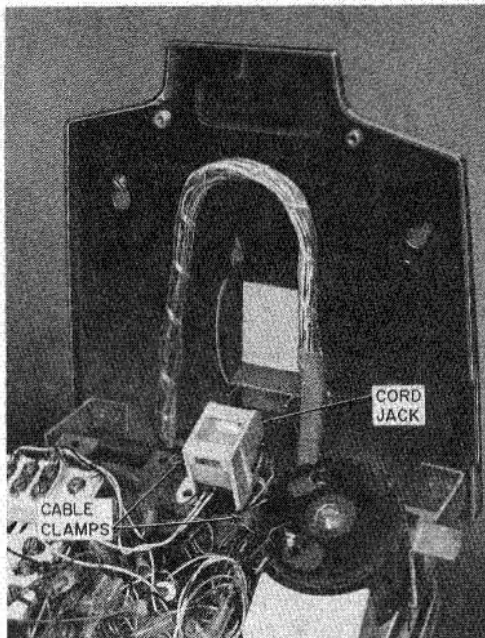
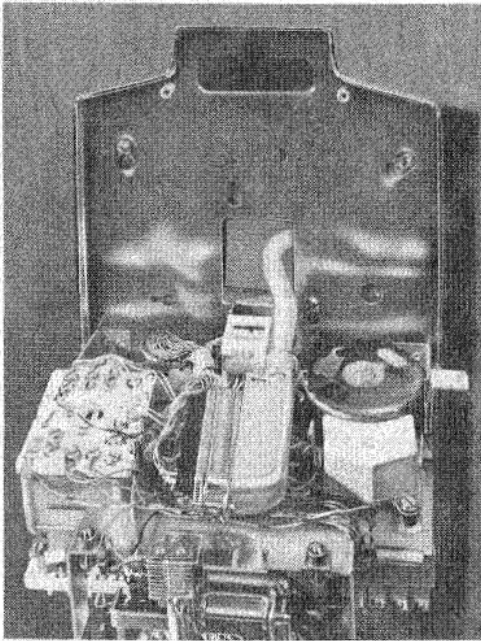
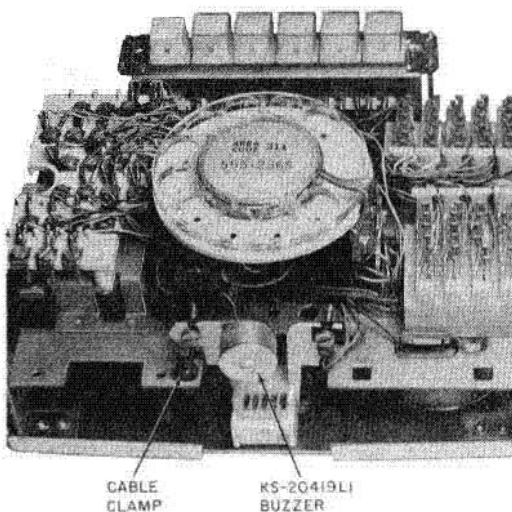

Fig. 7—Inside Wiring Cable, Exposed Wiring (Early Version)
Fig. 9—Connector Cable and D-180375 Kit of Parts (Early Version)
Fig. 13—KS-20419LI Buzzer Mounted on 851-Type Telephone Set
- (1) Remove sheath to surface of outlet box or bottom of hole in base pan, depending on method of wiring.
- (2) Remove cable clamps. Pinch legs of clamp from front of chassis (Fig. 13).
- (3) Slip one of the clamps provided with set around conductors approximately 9 inches from end of sheath. Add second clamp 2 inches above first.
- (4) Form slack loop as shown in Fig. 7 or 8 and install first clamp in hole to left of cord jack.
**3.06** On all sets except CM codes, if the set is served by the connector equipped end of an A25B connector cable, a D-180375 Kit of Parts must be used to obtain raw-ended conductors for termination. The mated connector and plug should be located as shown in Fig. 9. Check that connector and plug do not interfere with operation of line switch. Cable is routed and fastened in same manner as IW cable (Fig. 7 and 8).
**3.16 Buzzer:** The KS-20419L1 buzzer is mounted on an insulated bracket below the dial (Fig. 13). If required, an additional KS-20419L1 may be added or the existing KS-20419L1 may be replaced by the KS-8109L2 buzzer (14-30 volt ac or dc) which would be mounted using both screws.